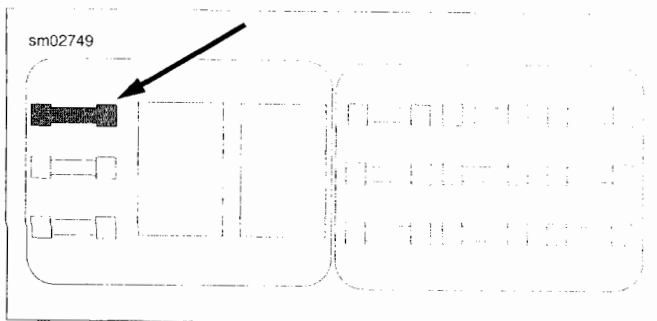

Figure 4-35. Fuel Pump Fuse: View from Top
- a. See Figure 4-35. Disconnect the fuel pump fuse from the main wiring harness.